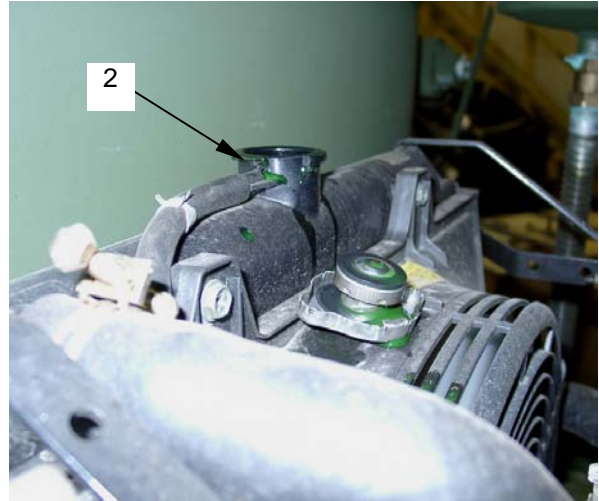

Figure 7. Radiator Cap and Radiator Fill Port
- a. Remove the radiator cap (**figure 7, item 1**).
- e. Using a 50/50 ethylene glycol base antifreeze/water mix fill the radiator with coolant until the level reaches the filler port (**figure 7, item 2**).
- g. Install radiator cap (**figure 7, item 1**).
- j. Install radiator cap (**figure 7, item 1**).